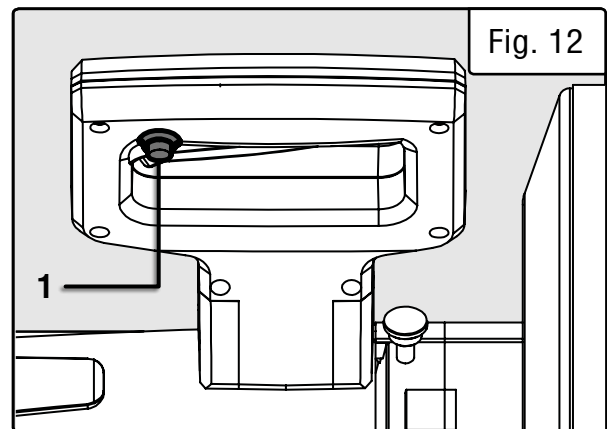
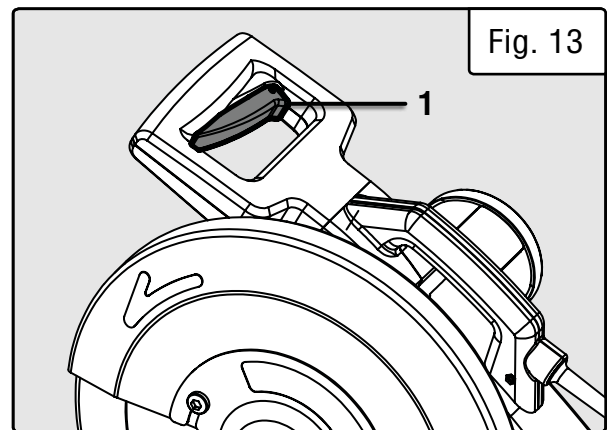

Fig. 12
Fig. 13
2. Grip the operating handle firmly, press the blade trigger lock button (Fig. 12 - 1) with your thumb, and squeeze the power trigger (Fig. 13 - 1) to turn the saw ON.